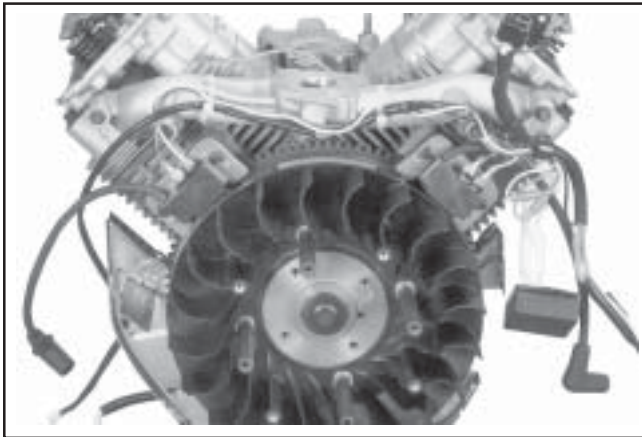

Figure 11-55. Connect Leads on SMART-SPARK™ Ignition Modules.
2. On engines equipped with SMART-SPARK™, both modules are installed the same way - with the two tabs out. See Figure 11-55.